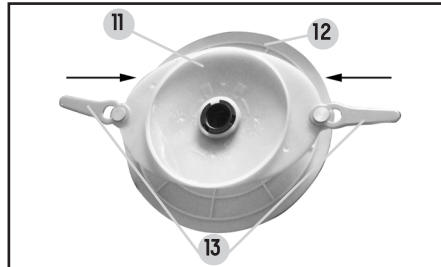

Fig. 11
- 1 Disconnect from the mains electricity supply and wait until the cutting head (11) has stopped rotating.
- Push the plastic blade (13) towards the centre of cutting head (11). (Fig.11) Lift the plastic blade away form cutting head.
- If a plastic blade (13) has broken during operation remove both blades and replace them immediately. Always replace blades in pairs.